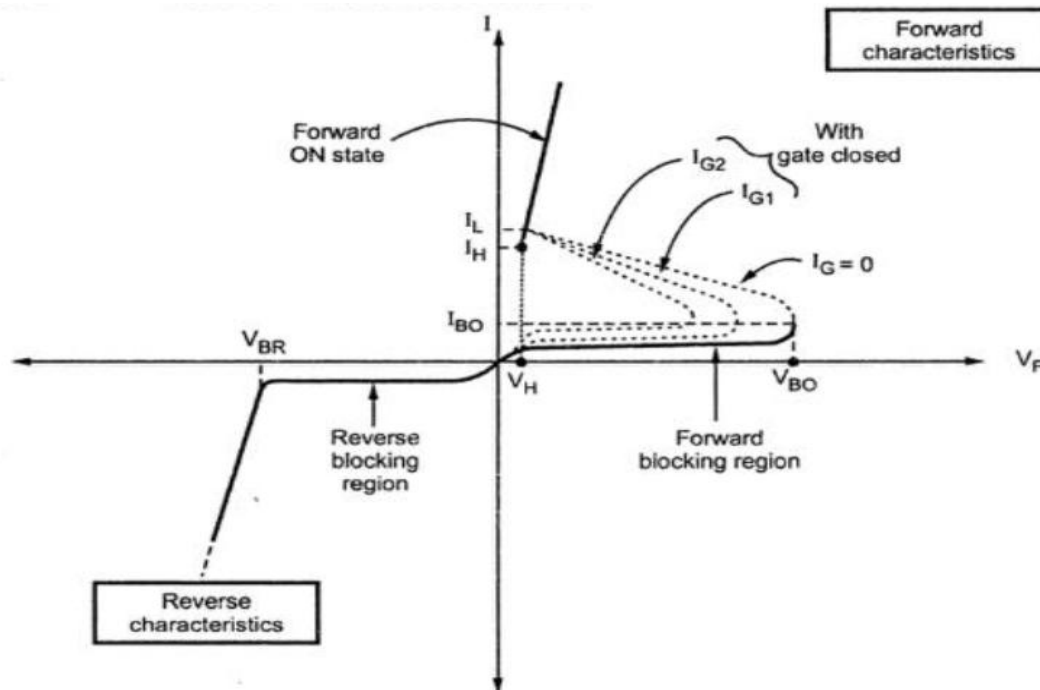

Fig. 5.28 VI Characteristics of SCR
- The Fig. 5.28 shows the characteristics of SCR. The characteristics are divided into two sections.